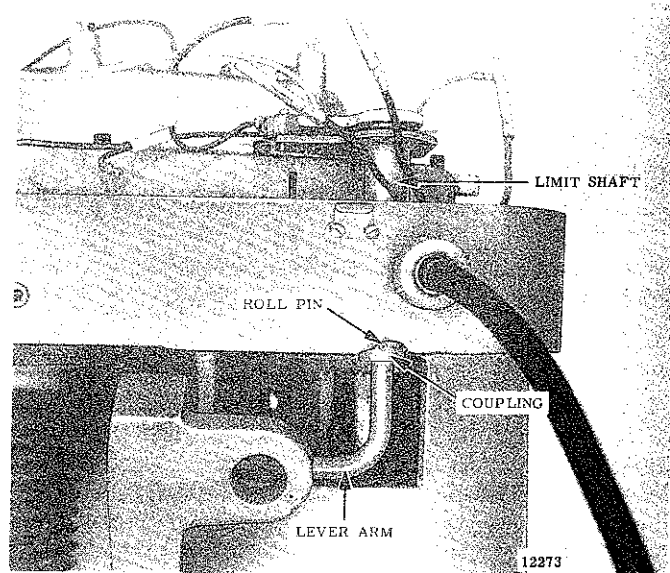

Figure 5-3. View showing Pinned Coupling between Limit Shaft and Lever Arm.
**NOTE:** To remove limit switch assembly, it will be necessary to disengage limit lever arm from limit shaft by driving roll pin from coupling. Refer to Figure 5-3.
b. Drain oil from gearcase; then, remove eight (8) socket head cap screws and lockwashers securing cover to gearcase. Carefully pry off cover.